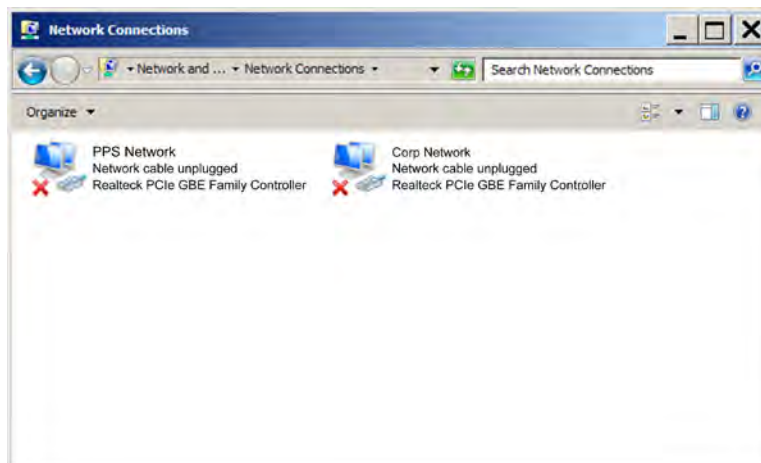

Figure 110. Network Settings. Rename each adapter to match the label on the device.
3. Rename each adapter to match the corresponding cabinet labels: PPS Network, Corp Network (see Figure 110).